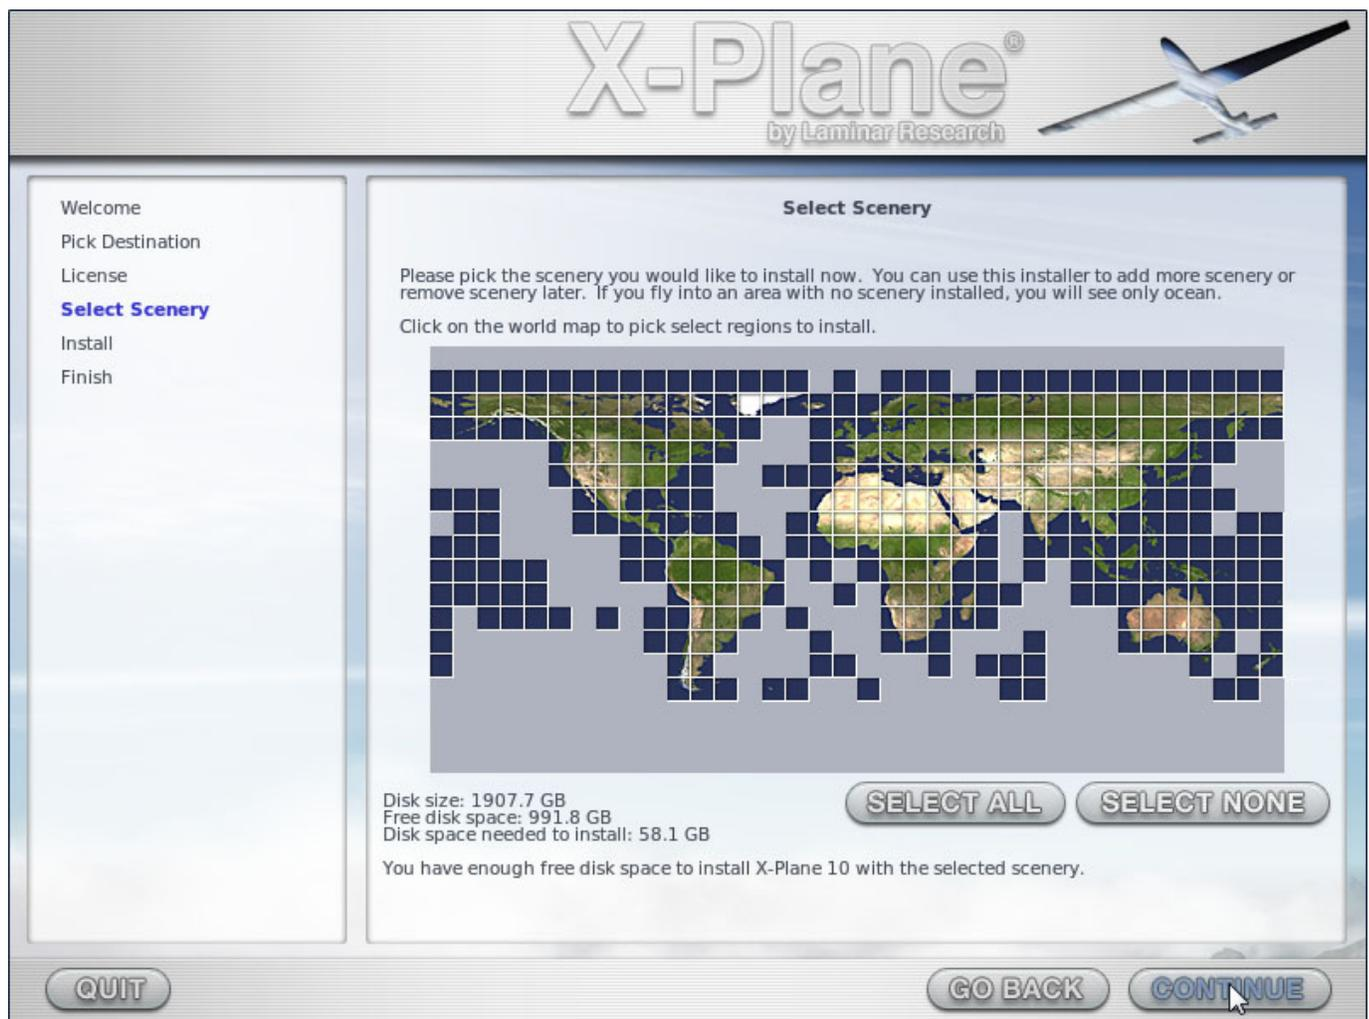

Figure 3.1: All scenery selected after clicking the **Select All** scenery button during the installation
7. Select the scenery you would like to install. Depending on the installer on your disc, either all of the world or none of it will be selected by default. An unselected tile will appear bleached in color, while a selected tile will have its full color (as all tiles do in Figure 3.1).